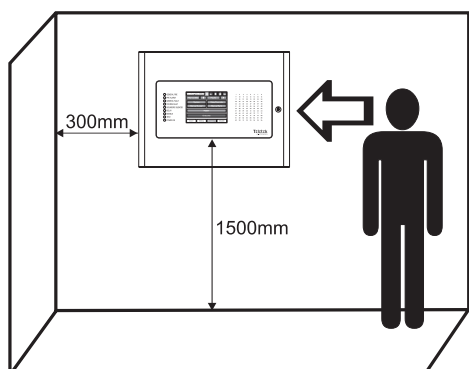

Figure 7A
• The panel must be installed in a clean dry place and must not be subjected to impacts or vibrations (Figure 7A). It must be situated far from heating appliances. The temperature must be within -5°C and + 40°C. The fire panel is not waterproof!